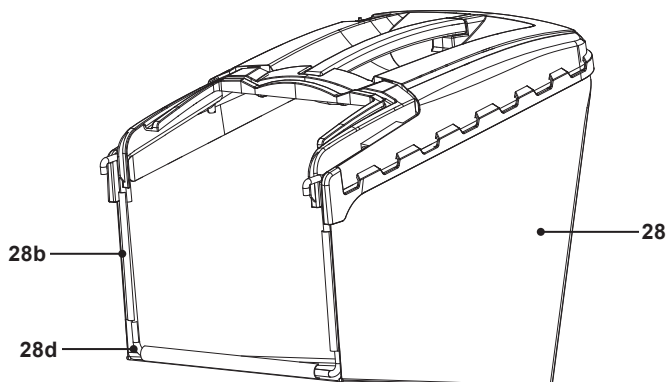

Fig. 5
1. Attach the rubber clips (28b) to the rod (28d) if they are not pre-assembled (Fig. 5) .
2. The grass catcher (28) is now ready for use.